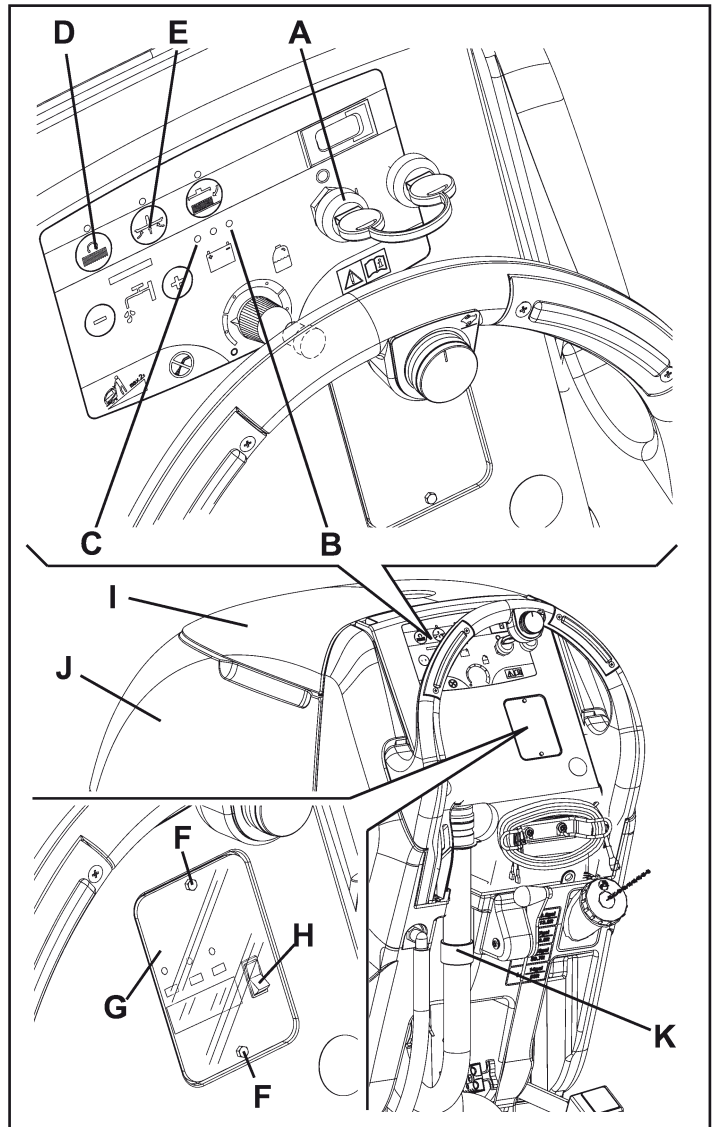

Figure 7
1. Turn the ignition key (A, Fig. 7) to "I" and in the very first seconds of machine operation pay attention to the following:
- If the green warning light (B) is flashing, the machine is set to AGM.
- If the red warning light (C) is flashing, the machine is set to WET.
3. Turn off the machine and turn the ignition key (A) to "0".
4. Press and hold the switches (D) and (E) at the same time, then turn the ignition key (80) to "I".
5. Continue to hold switches (D) and (E) until warning light (B) or (C) starts blinking.
6. Immediately release the switches and press the middle switch (E) to toggle to the other setting. (this must be done while the light is blinking to change the setting). Cycle the key switch to check.